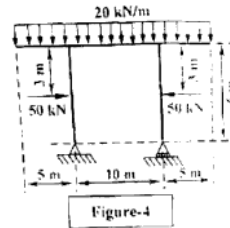

Figure-4
6. Analyze and obtain the axial force diagram (AFD), shear force diagram (SFD) and the bending moment diagram (BMD) for the frame shown in Figure-4. Also obtain the qualitative displacement curve for the frame.